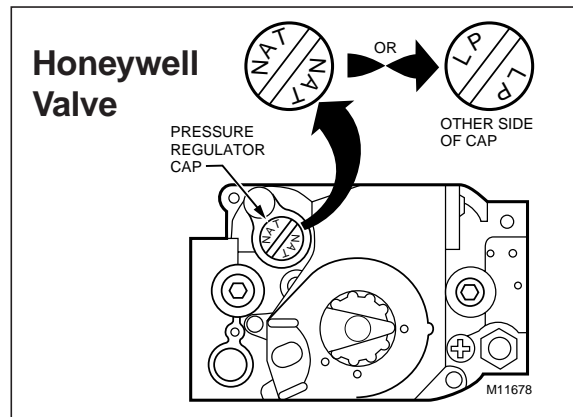

Figure 23. Convertible Pressure Regulator Cap
3. For the conversion to the alternate fuel, the gas valve regulator cap must be turned over, as shown in Figure 23. You will unscrew the cap and reinstall for your installation. After reinstalling the cap, you will be able to read "NAT" for the conversion to natural gas or "LP" for the conversion to LP gas.
- After the flame ignites, visually inspect the burner assembly to ensure that the flame is drawn directly into the center of the heat exchanger tube, as shown in Figure 23. The end of the flame will be out of sight around the bend of the heat exchanger tube. In a properly adjusted burner assembly, the flame color should be blue with some light yellow streaks near the outer portions of the flame.